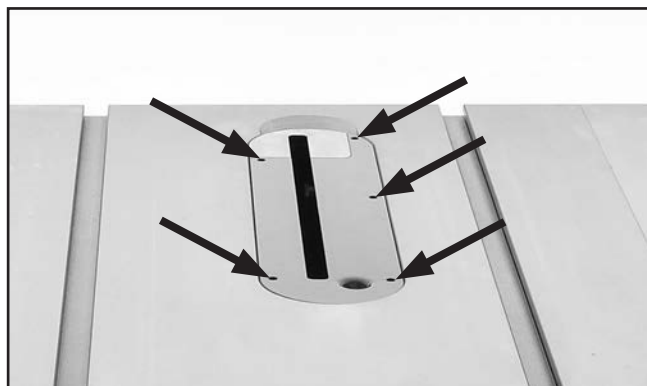

Figure 127. Location of table/dado insert holes with adjustment screws.
The table/dado insert must sit perfectly flush with the table to provide a smooth, continuous surface for the workpiece to slide over. The insert is held in place by a magnet and sits on top of five adjustment screws (see **Figure 127**).
3. Insert screwdriver through holes shown in **Figure 127** and either loosen screws to raise insert, or tighten screws to lower it. Repeat **Steps 2–3** until insert is perfectly flush with surface of table.